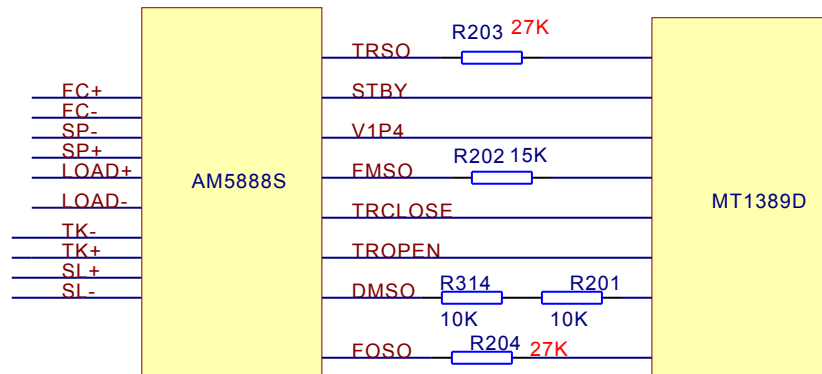

Figure 3.2.3.1 Open/close drive circuit diagram
1. Open/close drive circuit is shown as in the following figure 3.2.3.1: